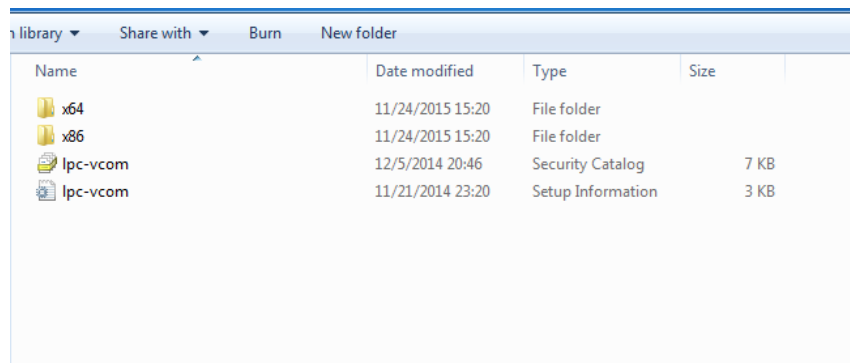

Fig. 7.3. Device driver folder content
- Select “x86” driver for a 32-bit machine or x64 for a 64-bit machine. If not sure, select a root folder (folder in which x64 and x86 lay inside, as in Fig. 7.3).